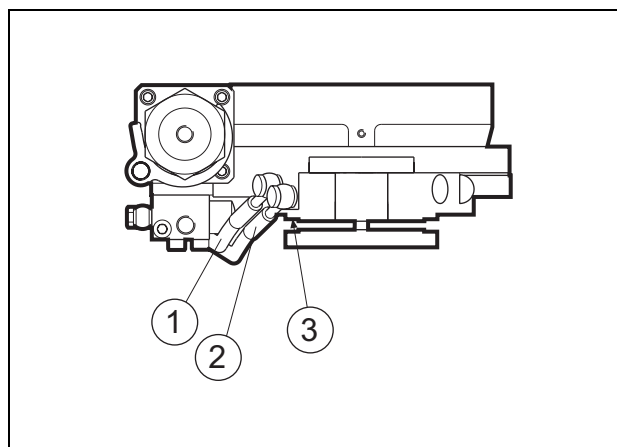

Fig. 56 Replacing hoses
To obtain best hose connection and to avoid unnecessary hose damages the tension hose (2) must be assembled tight towards the flange (3). Also keep the tension hose (2) tight to the recess grooves in the tensioning device and keep the lube oil hose (1) tight to the tension hose. See Fig. 56.